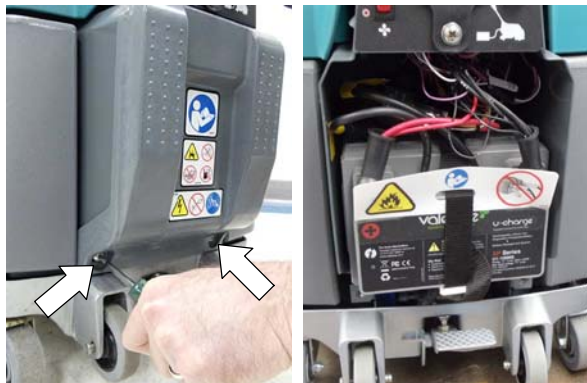

Fig. 1
1. Remove the battery compartment cover from machine by removing two screws at bottom of cover (Figure 1).